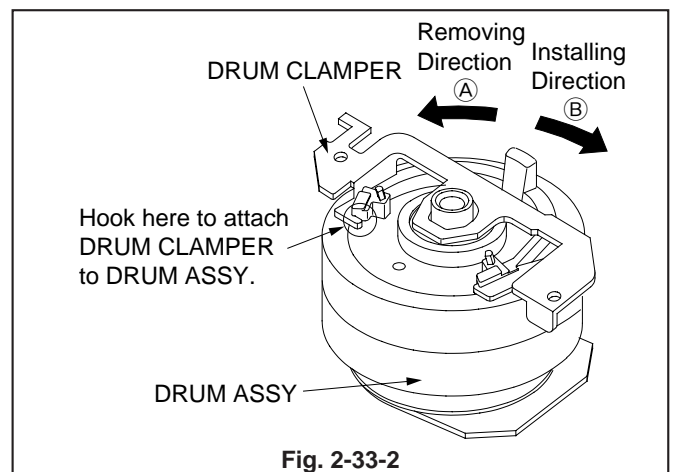

Fig. 2-33-2
3. Rotate the DRUM CLAMPER in Fig. 2-33-2 in the direction shown by arrow (A) to remove it from the DRUM ASSY.
1. Install the DRUM CLAMPER in Fig. 2-33-2 to the DRUM ASSY by rotating it in the direction shown by arrow (B).